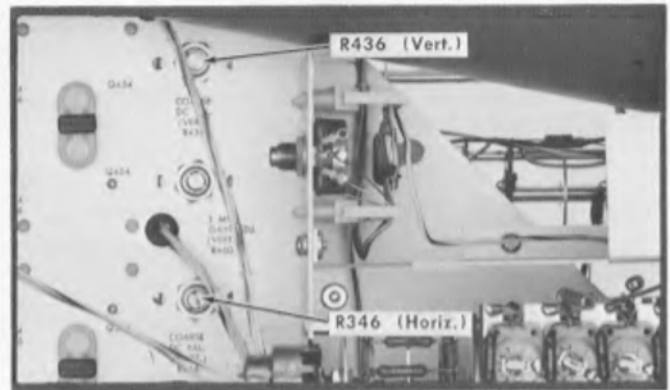

Fig. 6-10. Location of Coarse DC Balance adjustments, (left side).
14. Adjust Coarse DC Balance—Vertical ①
g. Re-center the trace with the COARSE DC BAL. (VERT.) R436. See Fig. 6-10 for R436 location.